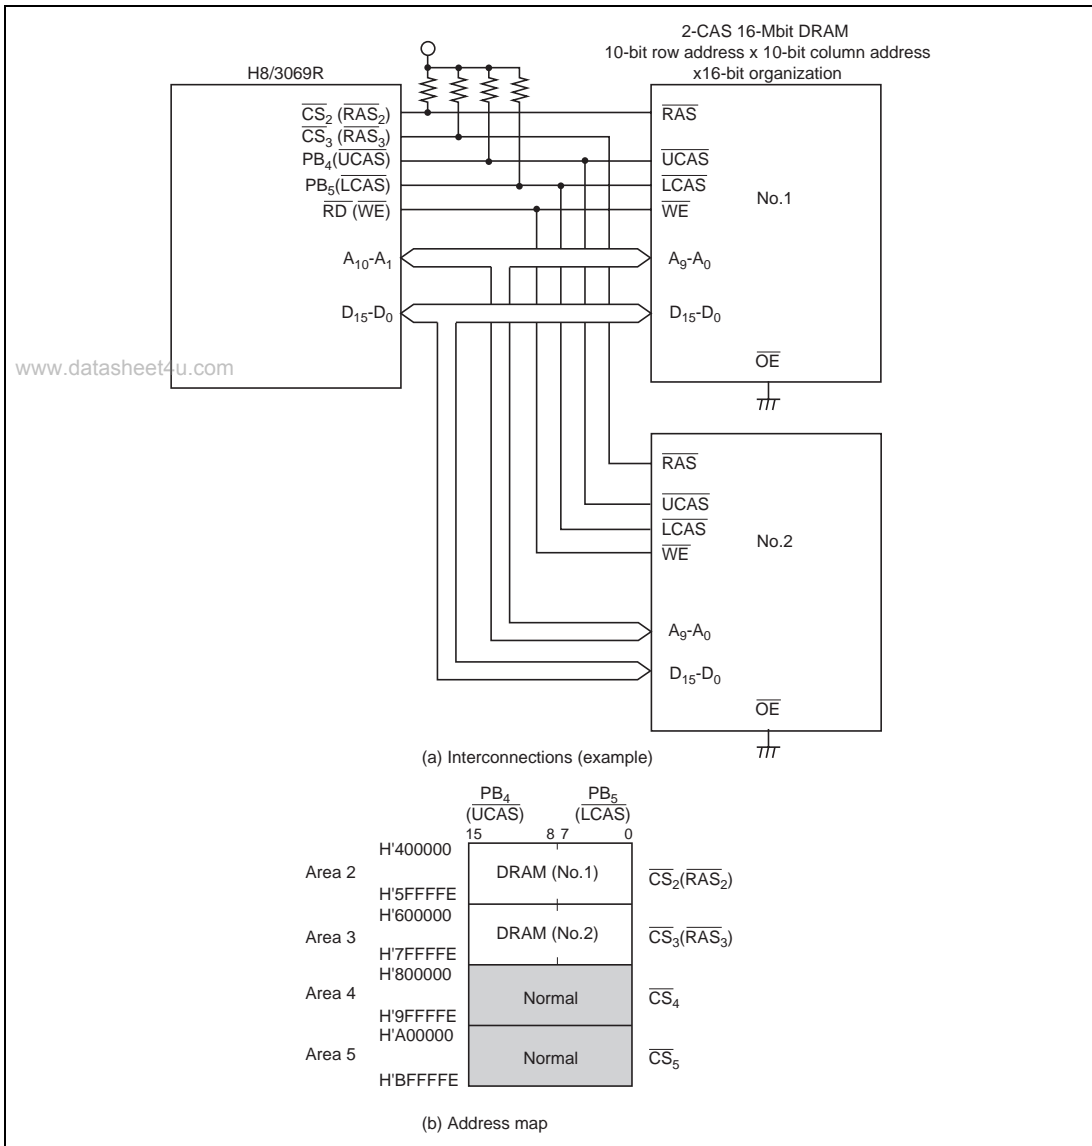

Figure 6.31 Interconnections and Address Map for 2-CAS 16-Mbit DRAMs with × 16-Bit Organization
- Figure 6.31 shows typical interconnections when using two 2-CAS type 16-Mbit DRAMs using a $\times 16$ -bit organization, and the corresponding address map. The DRAMs used in this example are of the 10-bit row address \times 10-bit column address type. Up to four DRAMs can be connected by designating areas 2 to 5 as DRAM space.